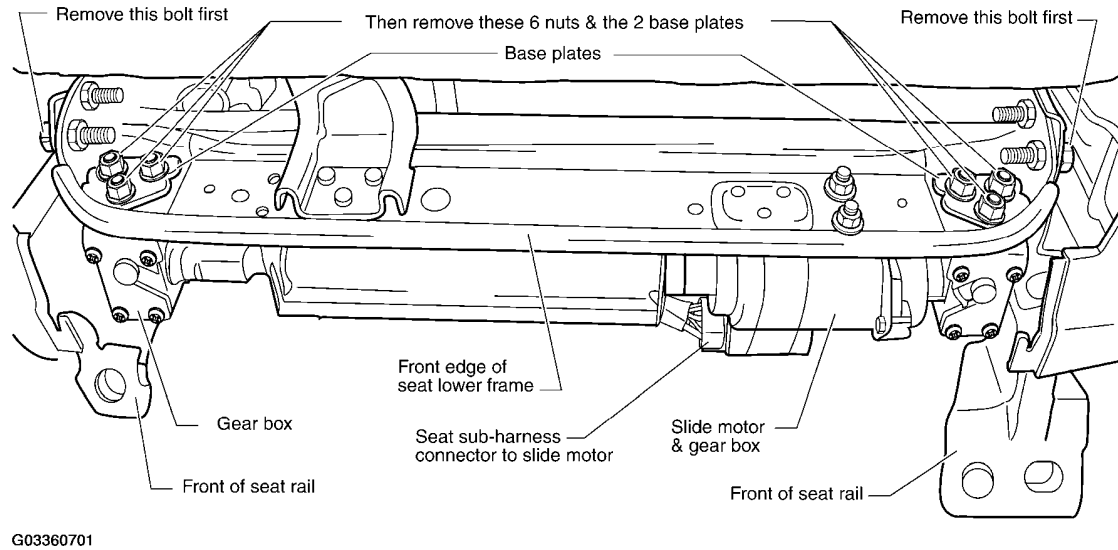

Fig. 6: Disconnecting Seat Sub-Harness Connector To Slide Motor
15. Disconnect the seat sub-harness connector to slide motor (see Fig. 6).
- Remove the bolts shown below, one from each side of the seat frame (M8, 12 mm head). They're located at the sides of the front edge of the seat (see "Remove this bolt first" in Fig. 6).
- Then, remove six nuts (3 on each side) and two base plates, located at the top of the frame, to release the gear boxes (see Fig. 6).
NOTE: For steps 20 through 23 (below), refer to Fig. 6 and Fig. 7 , if needed.
22. Tighten the six nuts (three on each side) with the base plates, located at the top of the frame, to secure the gear boxes (refer to Fig. 6 if needed). Nut torque: 64-85 in-lb (7.17-9.69 N.m).
23. Re-install and tighten two bolts (M8, 12 mm head) located to the sides of the front edge of the seat frame (see "Remove this bolt first" in Fig. 6). Bolt torque: 13-17 ft-lb (17.5- 23.7 N.m).